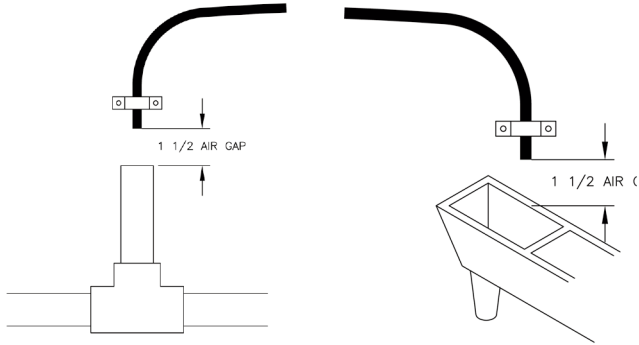

Figure 7: Also be sure drain line has an air gap.
2. If the drain line is a 5/8" flexible poly tube, slide the nut onto the poly tube, then place the poly tube insert into the end of the poly tube and tighten the nut on to the 3/4" drain line fitting. The nut is only designed for use with flexible poly tube. Use other nuts if attaching different materials. Run line to a drain. Making sure you have a 1 1/2" airgap. You may use a floor drain, standpipe or any open type drain (see Fig. 7 on page 10).